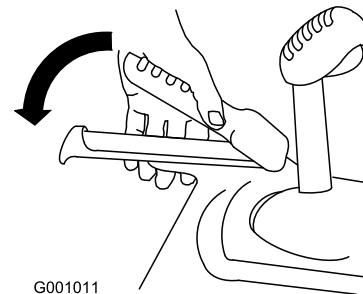

Figure 33
1. To engage the traction drive, squeeze the left hand (traction) lever to the hand-grip (Figure 33).